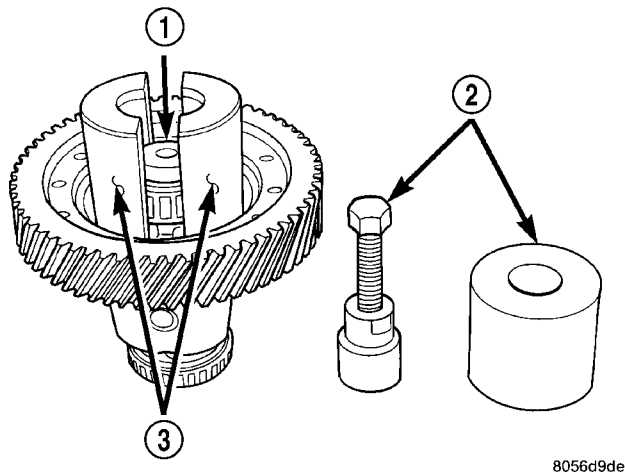
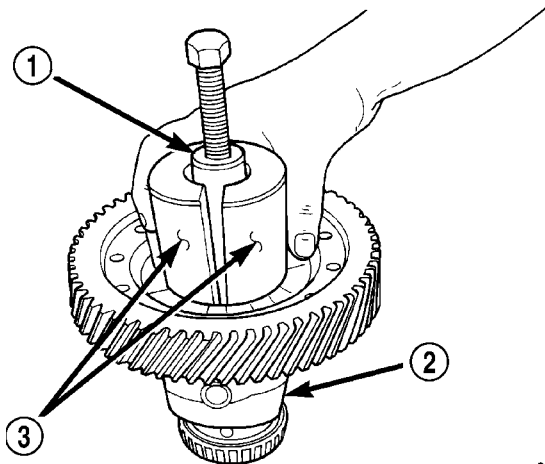
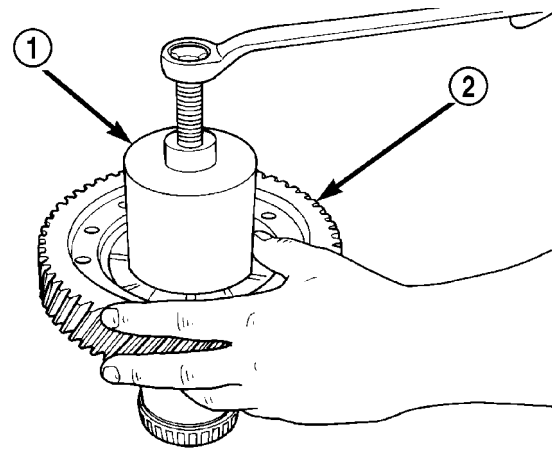

Fig. 173 Position Button and Collets Onto Differential and Bearing (Ring Gear Side)
Fig. 174 Position Tool 5048 Over Button and Collets at Differential Bearing (Ring Gear Side)
Fig. 175 Remove Differential Bearing Cone (Ring Gear Side)
(5) Use Miller Special Tool 5048, 5048-4 Collets, and L-4539-2 Button to remove the differential bearing cone on the bearing retainer side (Fig. 173) (Fig. 174) (Fig. 175).